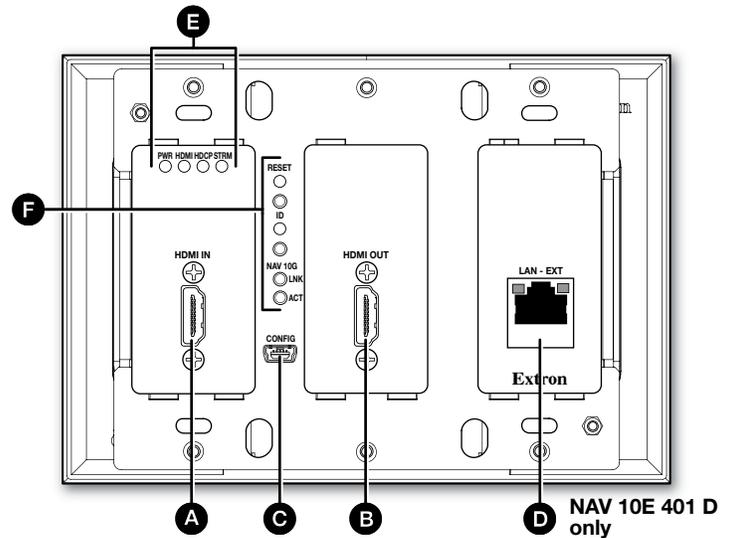
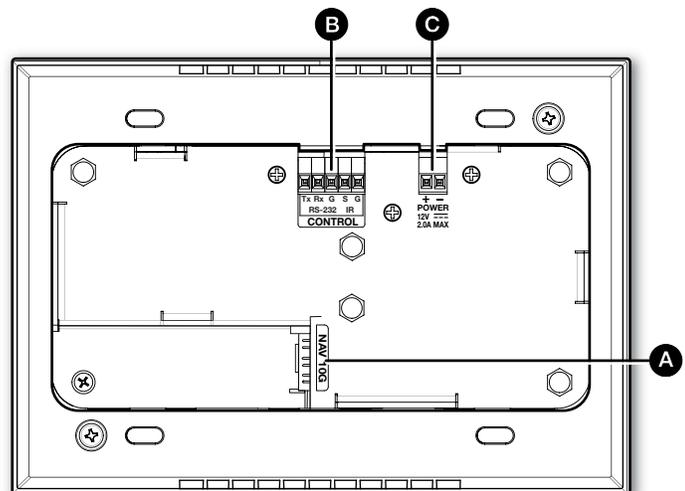

Figure 1. NAV 10E 401 D Front Panel Features
Figure 2. NAV 10E 401 D and NAV 10E 201 D Rear Panel Features
- Figure 1 shows a NAV 10E 401 D. The NAV 10E 201 D is similar, the exception is lack of a NAV Extension port (D).
Indicators and buttons (see figure 1 on page 1)
Connection to the encoder and its embedded web pages can be made via either the front panel configuration (USB) port (using IP over USB technology) (see figure 1, **C** on page 1) or the rear panel NAV 10G port (see figure 2, **F** on page 2).